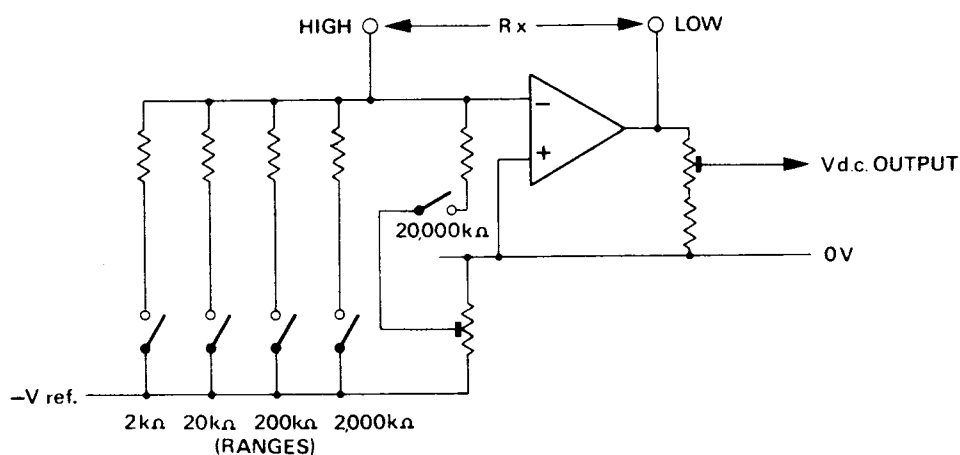

Fig. 4 Ohms—D.C. converter
4.16 RESISTANCE MEASUREMENT (Figs. 4, 7)